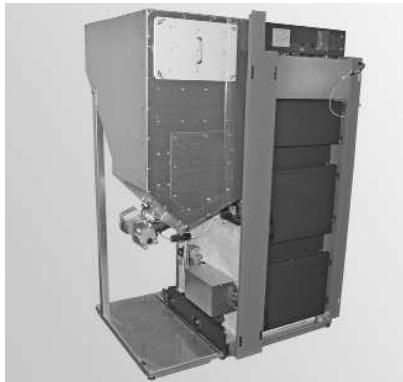
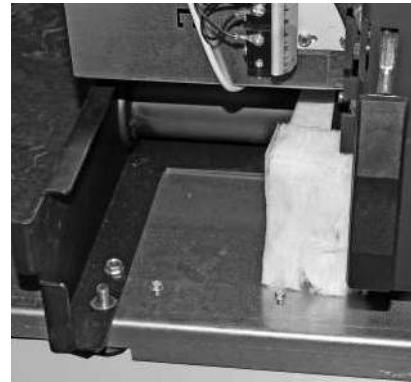

Fig. 38 Fitting vertical centre panel
Fig. 39 Removing prefitted TT screw
- Fit vertical centre panel (part 21) (Fig. 38), remove 2 x prefitted TT screws at bottom – Fig. 39.